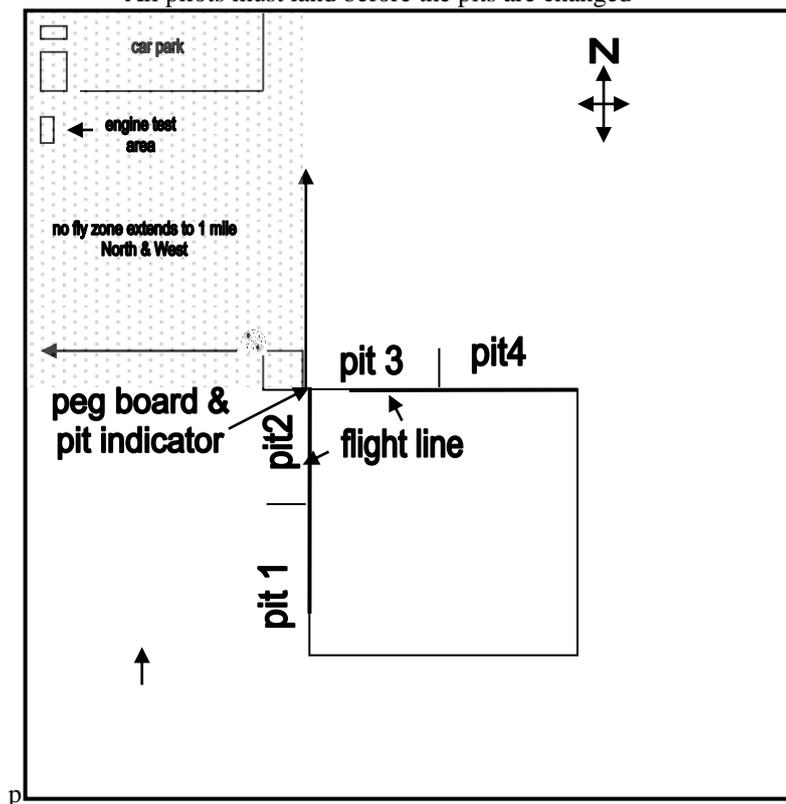

Figure 2 Pits Positions for various take off directions
6.2.1.1 The Society operates a system on the Landmead site whereby only two alternative flight line positions are permitted. This is intended to prevent spectators or pilots from crossing the landing/take off area as they transit to and from the car park. Depending on wind direction, pits are set up as shown in Figure 2.